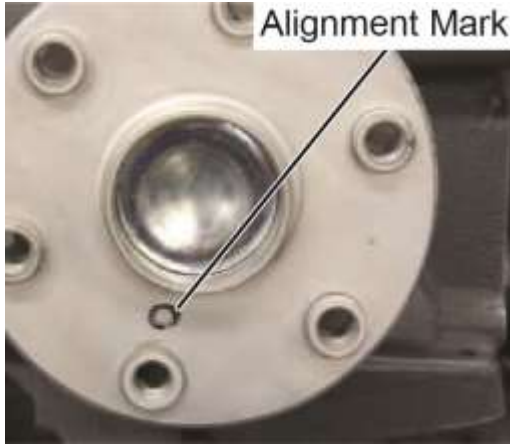
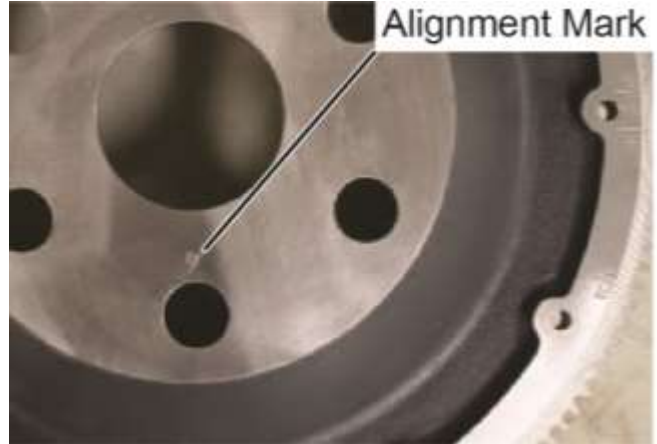

Figure 57
Figure 58
- (1) Install the alternator belt in the pulley of the starter ring gear support per the “Alternator Belt Installation” procedure in this chapter.
- (2) Assemble the ring gear support assembly over the propeller flange bushings.
- (3) Locate the starter ring gear so that the "0" on the ring gear support assembly aligns with the "0" on the crankshaft flange.
- (4) Align the mark on the crankshaft flange (Figure 57) with the timing mark on the starter ring gear assembly (Figure 58). Install the starter ring gear on the crankshaft flange.
- (5) Adjust the alternator belt tension. Refer to the “Alternator Belt Tension Adjustment” procedure for the respective alternator in this chapter.